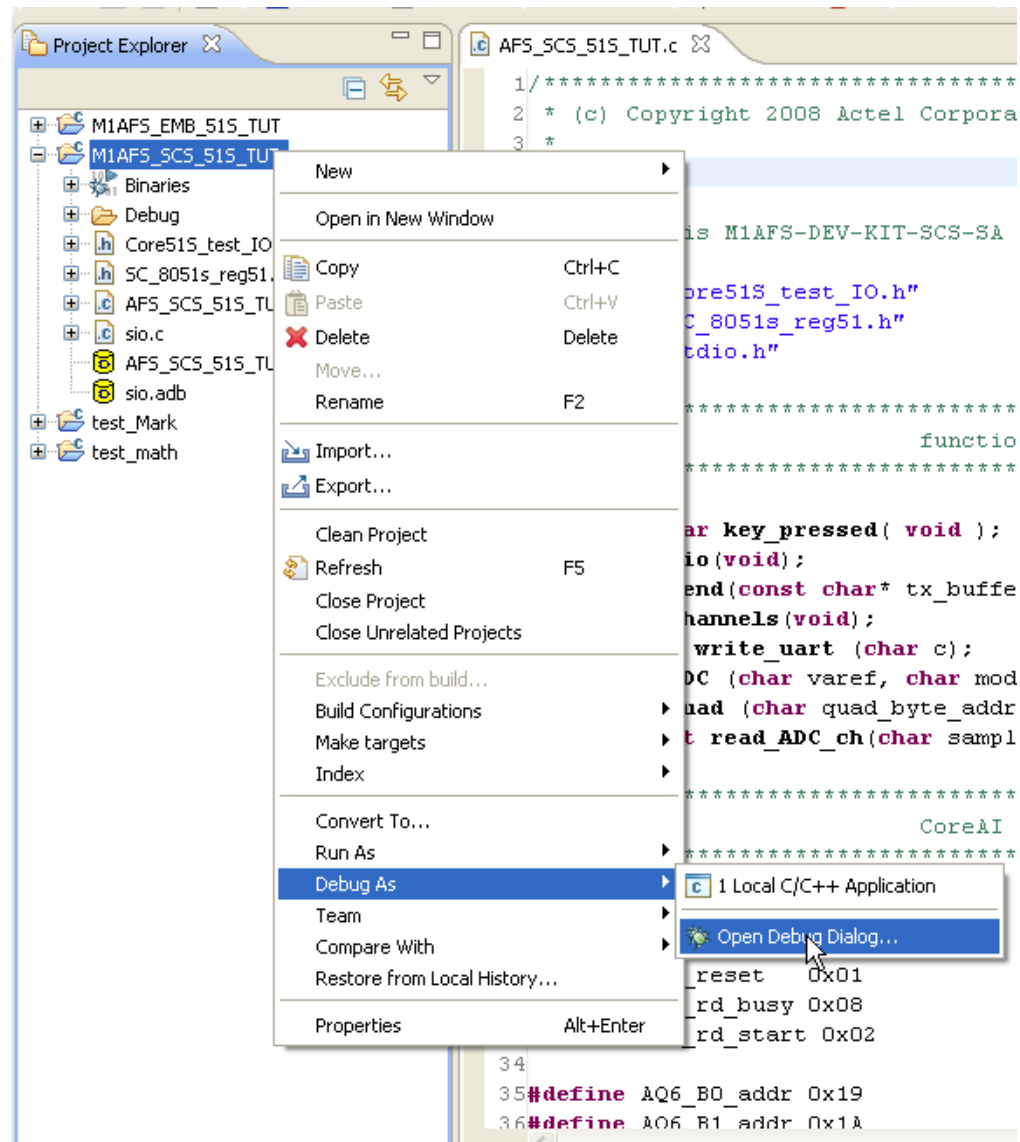

Figure 6-1 · Opening Debug Dialog
2. Select **Open Debug Dialog** (Figure 6-1). The Debug window opens.